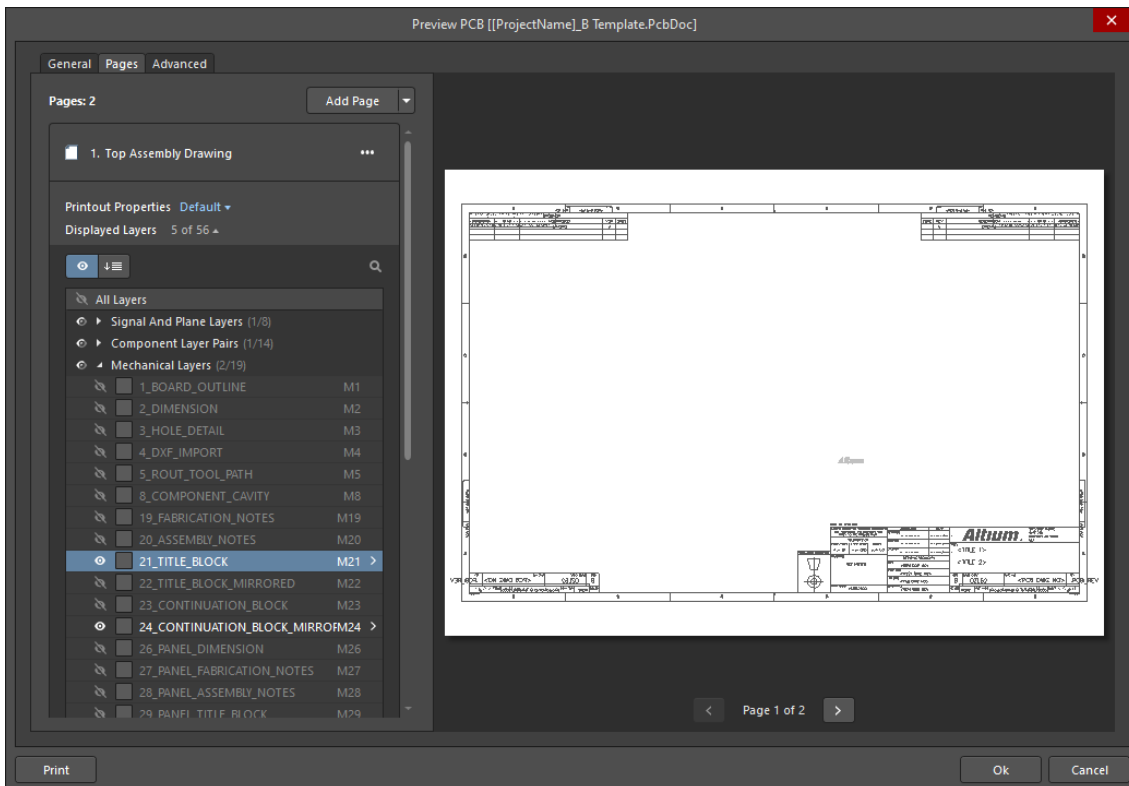

Figure 22. Final PCB Preview
69. The result should be as seen in Figure 22.